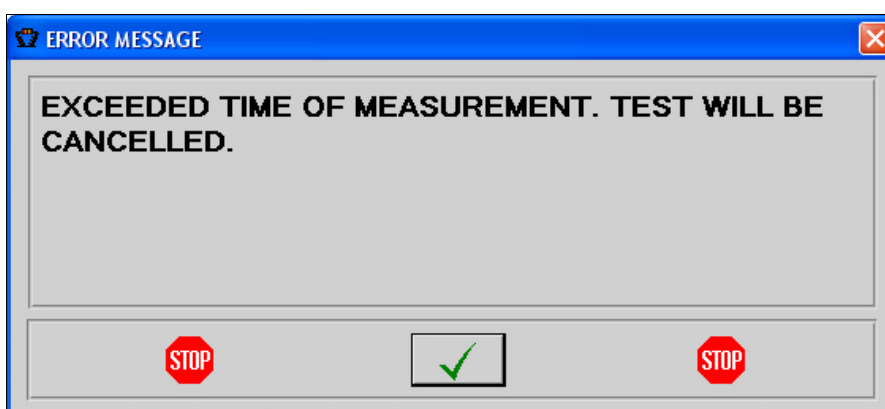

Figure 5-61: Error of exceeded time of measurement.
- Exceeded maximum time of measure. The unit has a temporary limitation of operation after the one will precise refrigeration. If this time is exceeded, the message appears and the test is canceled (do leave the unit switched on with the operative fan without measuring for a prudential time). Figure 5-61.